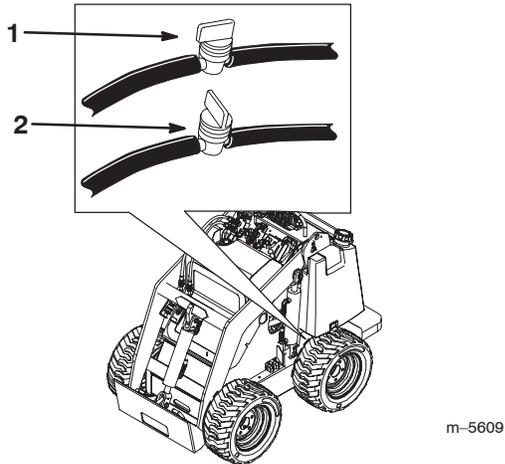

Figure 30
3. Shut off the fuel valve on the bottom of the fuel tank (Fig. 30).
- Open the fuel valve on the bottom of the fuel tank (Fig. 30).
4. Shut off the fuel valve in the hose near the bottom of the fuel tank as illustrated in Figure 30.
9. Open the fuel valve in the hose near the bottom of the fuel tank as illustrated in Figure 30.